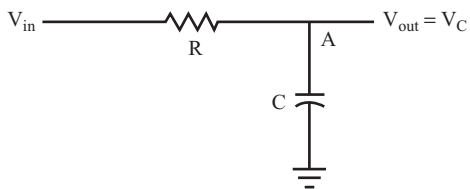
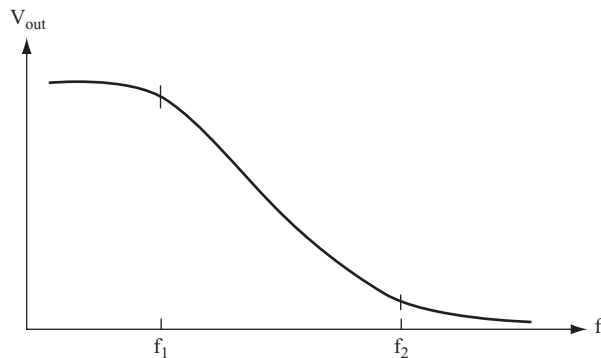
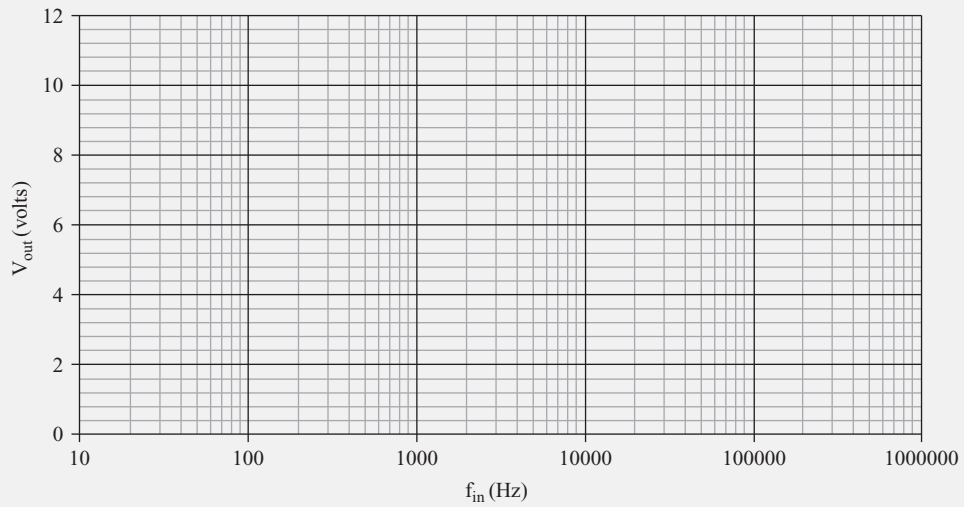

FIGURE 6.17
FIGURE 6.18
FIGURE 6.20
15 The circuit shown in Figure 6.17 is used in many electronic devices.
The impedance of this circuit is the same as that of the circuit used in the last few problems. It still behaves like a voltage divider, and you can calculate the output voltage with an equation similar to the one you used for the high-pass filter circuit discussed in the last few problems. However, by switching the positions of the resistor and capacitor to create the circuit shown in Figure 6.17, you switch which frequencies will be attenuated, and which will not be attenuated, making the new circuit a low-pass filter, whose characteristics you explore in the next few problems.
- 16** Refer to the circuit shown in Figure 6.17 and the following values:
17 Again, refer to the circuit shown in Figure 6.17 to answer the following question.
19 V_{out} of the circuit shown in Figure 6.17 changes as the frequency of the input signal changes. Figure 6.18 shows the graph of V_{out} versus frequency for this circuit.
NOTE You can see in Figure 6.18 that V_{out} is large for the lowest frequency and nearly zero for the highest frequency. This type of circuit is called a *low-pass filter* because it will pass low frequency signals with little attenuation, while blocking high-frequency signals.
9. In the blank graph shown in Figure 6.20, plot V_{out} versus f_{in} with the voltage on the vertical axis and the frequency on the X axis. The curve should have the same shape as the curve shown in Figure 6.18.